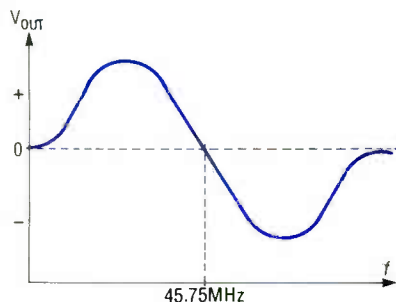

FIG. 1—DISCRIMINATOR OUTPUT TUNED to video IF at 45.75 MHz and zero volts with respect to reference.
Figure 1 shows the discriminator curve with an IF of 45.75 MHz. The discriminator output is routed to a varactor, or a transistor acting like a varactor, in the local oscillator (LO) tuning circuit. With proper polarities chosen, any detuning of the set would result in an error signal from the AFT circuit that would change the varactor's capacitance to properly tune the LO.